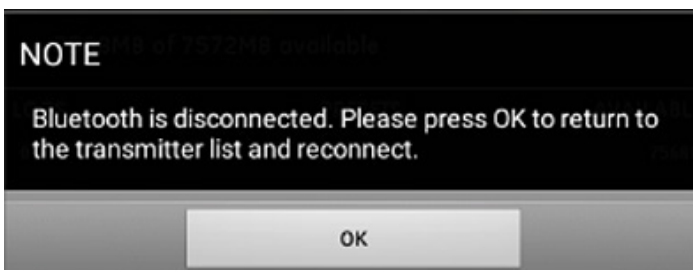

Figure 124: Transmitter reconnection screen
6. After the transmitter reboots, the message shown in *Figure 124* below will pop up. Click the *ok* button to reconnect the transmitter.